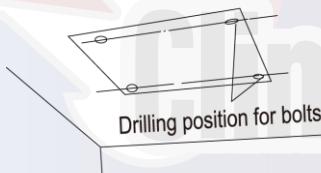

Fig. 4.3
- (1). Using the installation template, drill holes for bolts (four holes). (Fig. 4.3)